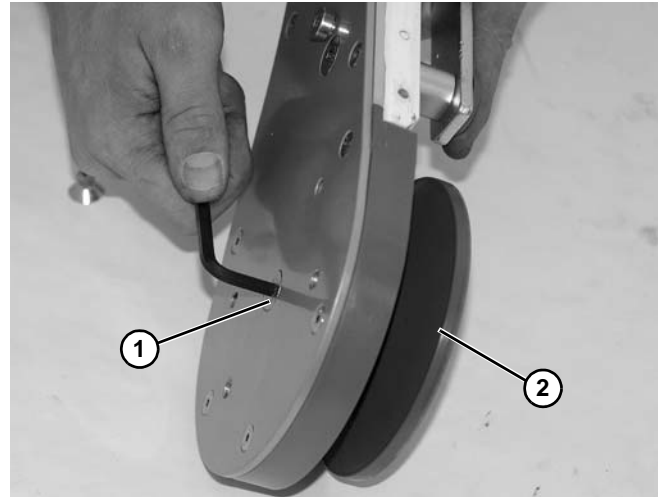

Figure 72
3. Remove flat head screw (Figure 72, item 1) and remove idler pulley (Figure 72, item 2) from idler head plate assembly.